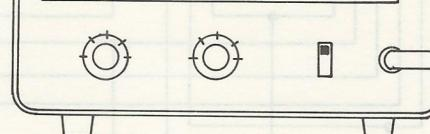

Fig. 1
- (b) Align trimmer capacitor C903 to have the indication of frequency counter be of 1854000Hz. Refer to Fig. 1.